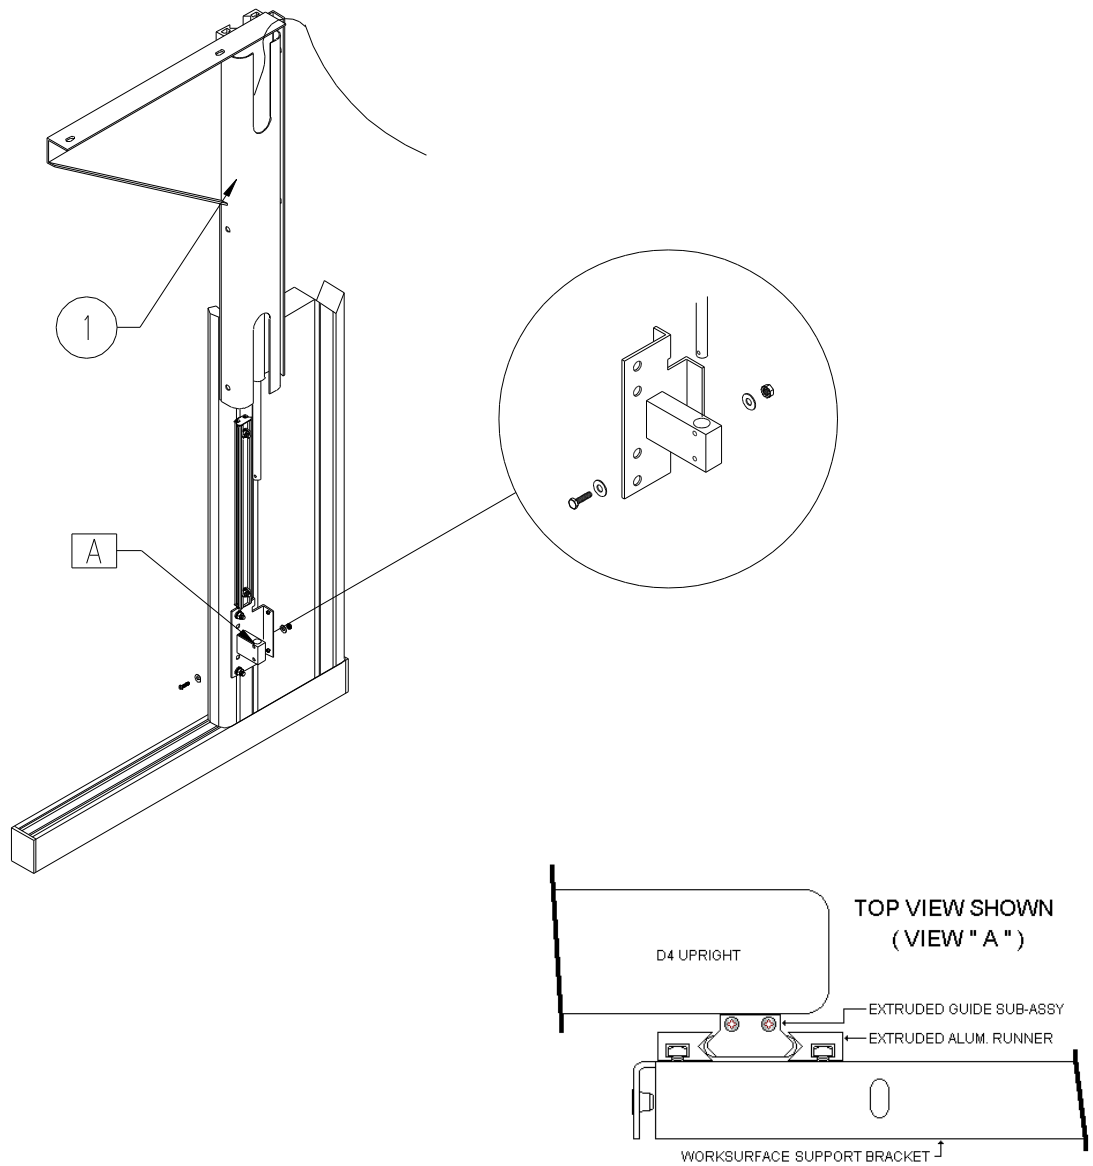

Figure 4
STEP 5: To attach the worksurface support assemblies, item #1 of Figure 4, first crank the pump system so that the cylinder shaft is extended approximately 8" out of the cylinder housing. Slide the worksurface support assembly extruded aluminum runners shown in Figure 4 over the guide assemblies attached to the uprights and feed cylinder shaft into mounting hole in the cylinder support brackets as shown. Attach the cylinder shaft to the cylinder support bracket using 10-32 x
1.00 phillips machine screw, #10 flat washers and #10-23 hex keps nuts as shown in Figure 4.